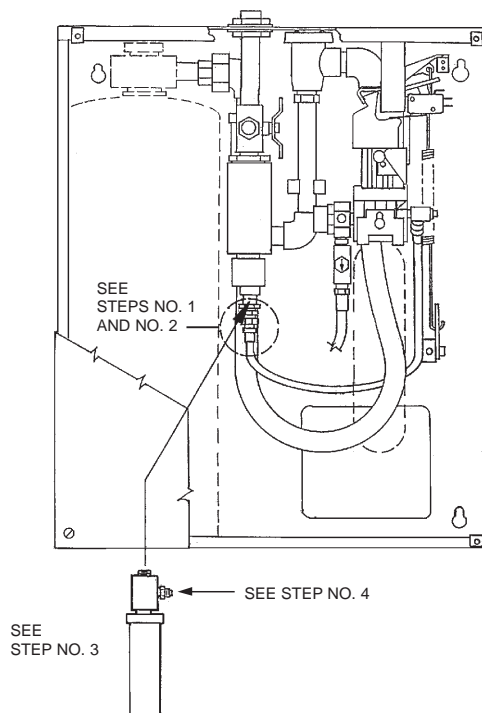

FIGURE 42
The Water Shutdown Device, Part No. 426294, must be installed in the PIRANHA AUTOMAN Release Assembly and the PIRANHA Regulated Actuator. The water shutdown device is mounted between the water flow valve and the 1/4 in. high pressure hose within the PIRANHA AUTOMAN Release. See Figure 42.
1. Remove the 1/4 in. high pressure hose at the bottom of the water flow valve. See Figure 42. Note: On units manufactured before March 1999, remove the green pressure relief valve and the bottom of the water flow valve and install the water shutdown device.
2. Remove the valve core assembly and the 1/4 in. x 1/8 in. reducing bushing at the bottom of the water flow valve. See Figure 42.
3. Apply Teflon tape to the 1/4 in. male thread of the water shutdown device and install device into bottom of water flow valve. See Figure 42. Wrench tighten.
4. Reconnect the 1/4 in. high pressure hose to the valve core assembly located in the water shutdown device. See Figure 42.